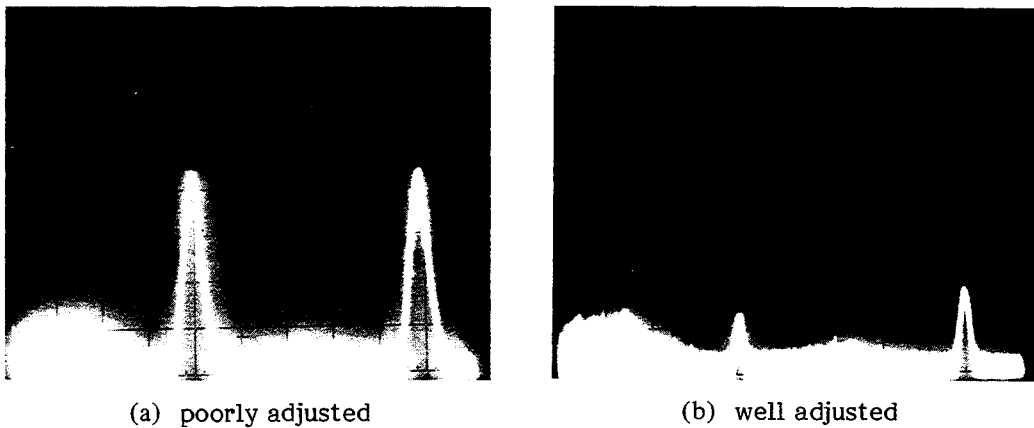

Figure 5-7. Waveforms at A4TP1 (20kHz/div., REF: -10dBV LOG).
- d. Adjust A4R31 (VR5) until the peak of the 100kHz and 200kHz spurious, shown in Figure 5-7 (a), are minimized as shown in Figure 5-7 (b).